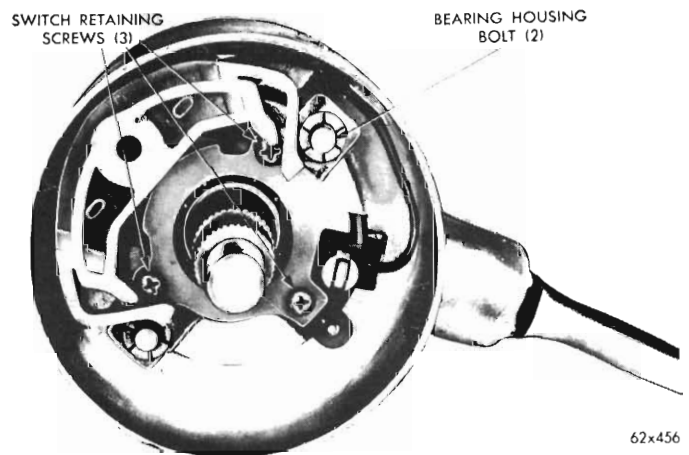
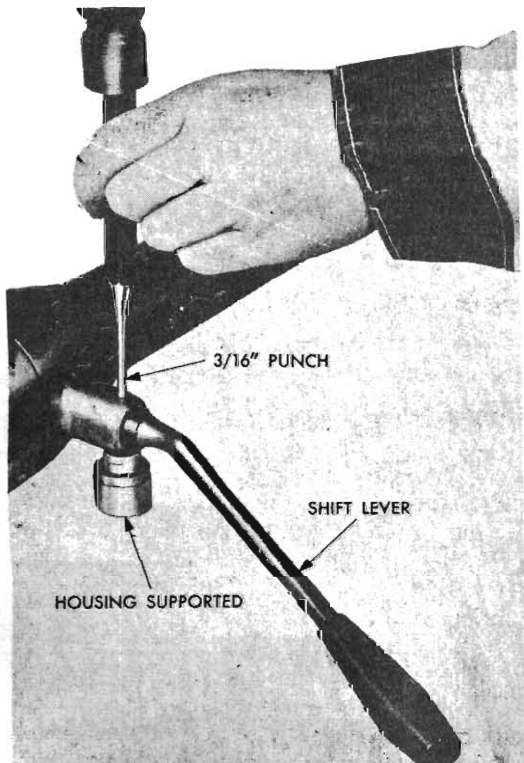
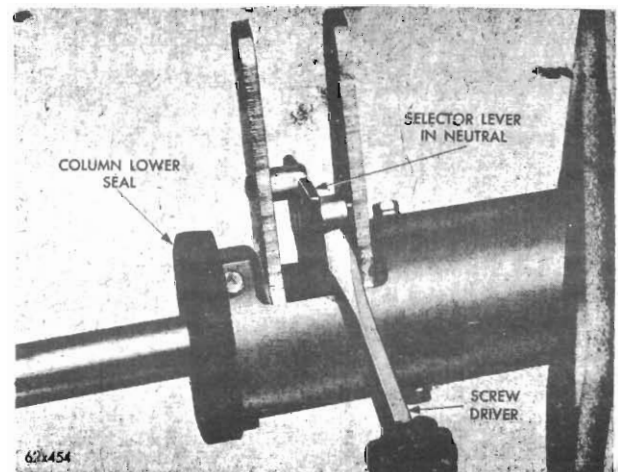

Fig. 3 – View of steering column – upper end (typical)
Fig. 4 - Removing shift lever pivot pin
Fig. 9 - Holding selector lever in neutral position
- (2) Remove the three recessed head switch retaining screws (*See Fig. 3*) and pull the turn signal switch and switch plate up and out, feeding the wires and connectors through the steering column jacket.
- (3) Disengage the column jacket lower seal from the lip on the jacket, and slide the seal down toward the coupling.
- (4) Using snap ring pliers, remove the bearing upper snap ring from the upper groove in the steering shaft.
- (5) Slide the steering shaft and coupling assembly down and out of the steering column jacket assembly.
- (6) Remove the column jacket lower seal from the steering shaft.
(7) Whilst supporting the gear-shift housing in the area around the shift level pivot pin, drive out the pivot pin, using a 3/16" punch, and remove the shift lever (see Fig. 4).
(14) Place a screwdriver blade between the 2nd and 3rd speed shift lever and the selector lever, so it will hold the selector lever at neutral position halfway between the two shift levers (*see Fig. 9*).
(15) Position the gearshift lever in the shift lever housing so it engages the hole in the shift tube plate with the pin hole aligned.
(16) Support the jacket tube housing in the area around the pin hole (*see Fig. 4*) and drive the pivot pin in flush with the housing.
(17) Slide the seal onto the steering shaft and down against the coupling, with the lip at the outside diameter facing upward, so the seal can be positioned on the lower end of the column jacket during assembly.
(18) Install the horseshoe-shaped lower snap ring in the lower groove on the steering shaft and slide the steering shaft into the column assembly.
(19) Install the upper bearing in the bearing housing, ensuring that it is correctly positioned against the lower snap ring. Position the wavy upper snap ring against the top of the bearing.
(20) Exert sufficient pressure against the upper snap ring to flatten it against the bearing so it can enter the groove in the steering tube. Ensure that the snap ring is firmly seated in the groove.
(21) Place the bearing insulator over the bearing column upper bearing and position the bearing and insulator in the counterbore provided in the bearing housing.
(22) Position the directional switch assembly in the bearing housing, whilst feeding the twin signal and horn wires down through the steering column and out through the opening provided in the column jacket.
(23) Place the switch plate over the switch, and install the three switch retaining screws (*see Fig. 3*).
(24) Position the turn signal lever in the assembly, sighting down through the hole in the switch to align the screw hole, and install the lever attaching screw.